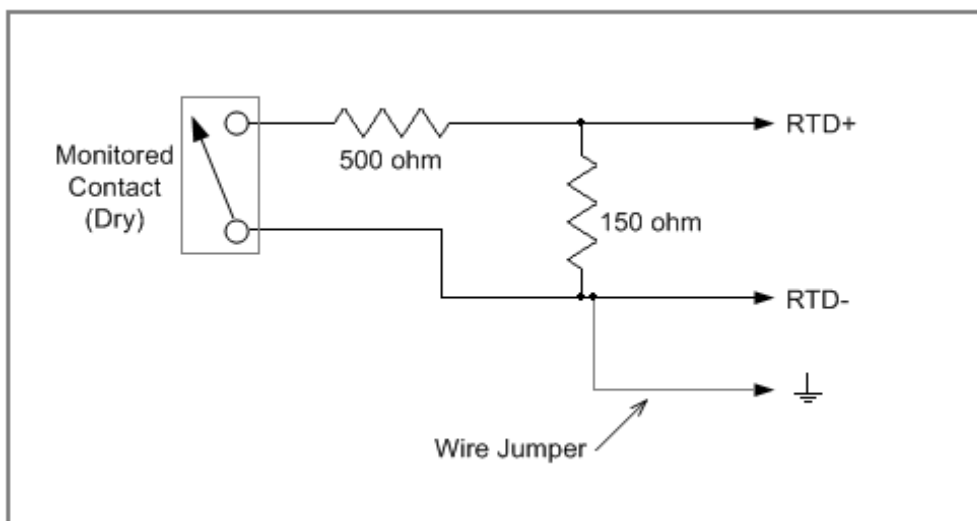

Figure 1: Using resistors to monitor a contact
In Figure 1, a 150 ohm resistor is connected to the RTD input of choice. Since the EPC-2374 supports three-wire RTD inputs, a small jumper wire is required between the negative input and the ground terminal. Refer to the manual for RTD connections.
The 150 ohm resistor will give a temperature reading of 130 degrees C, given the RTD channel is enabled in the set-point manager. Notice in figure 1, the 500 ohm resistor is out of the circuit while the monitored contact is open. Upon the closure of the monitored contact, the resistance seen by the EPC-2374 drops from 150 ohms (approximately 130 degrees C) to 115.38 ohms (approximately 40 degrees C).
- Connect a 500 ohm resistor across the RTD channel used through the contact as shown in figure 1.